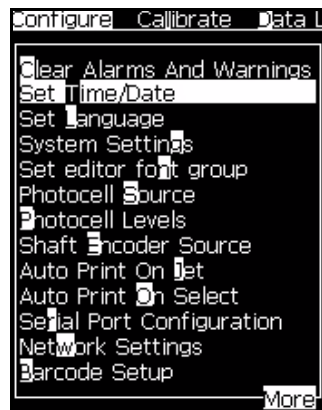

Figure 4-19: Set Time/Date
- 30** Set date and time. Access *Configure > Set Time/Date* (see Figure 4-19).